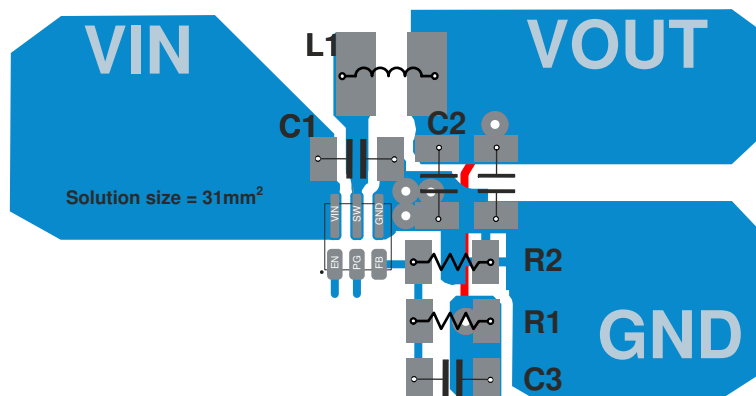

Figure 8-28. PCB Layout Recommendation
The printed-circuit-board (PCB) layout is an important step to maintain the high performance of the device. See Figure 8-28 for the recommended PCB layout.
- Refer to Figure 8-28 for an example of component placement, routing and thermal design.